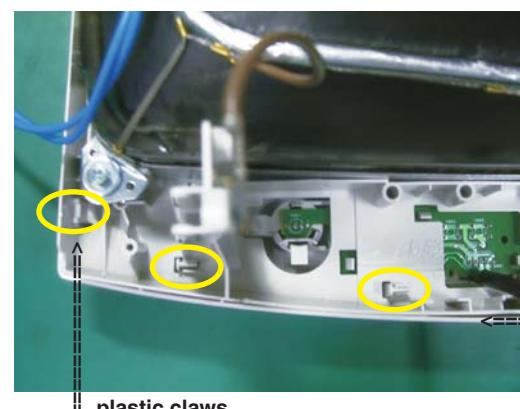

Fig. 19
- Release 6 plastic claws as shown in Fig. 19 &20.